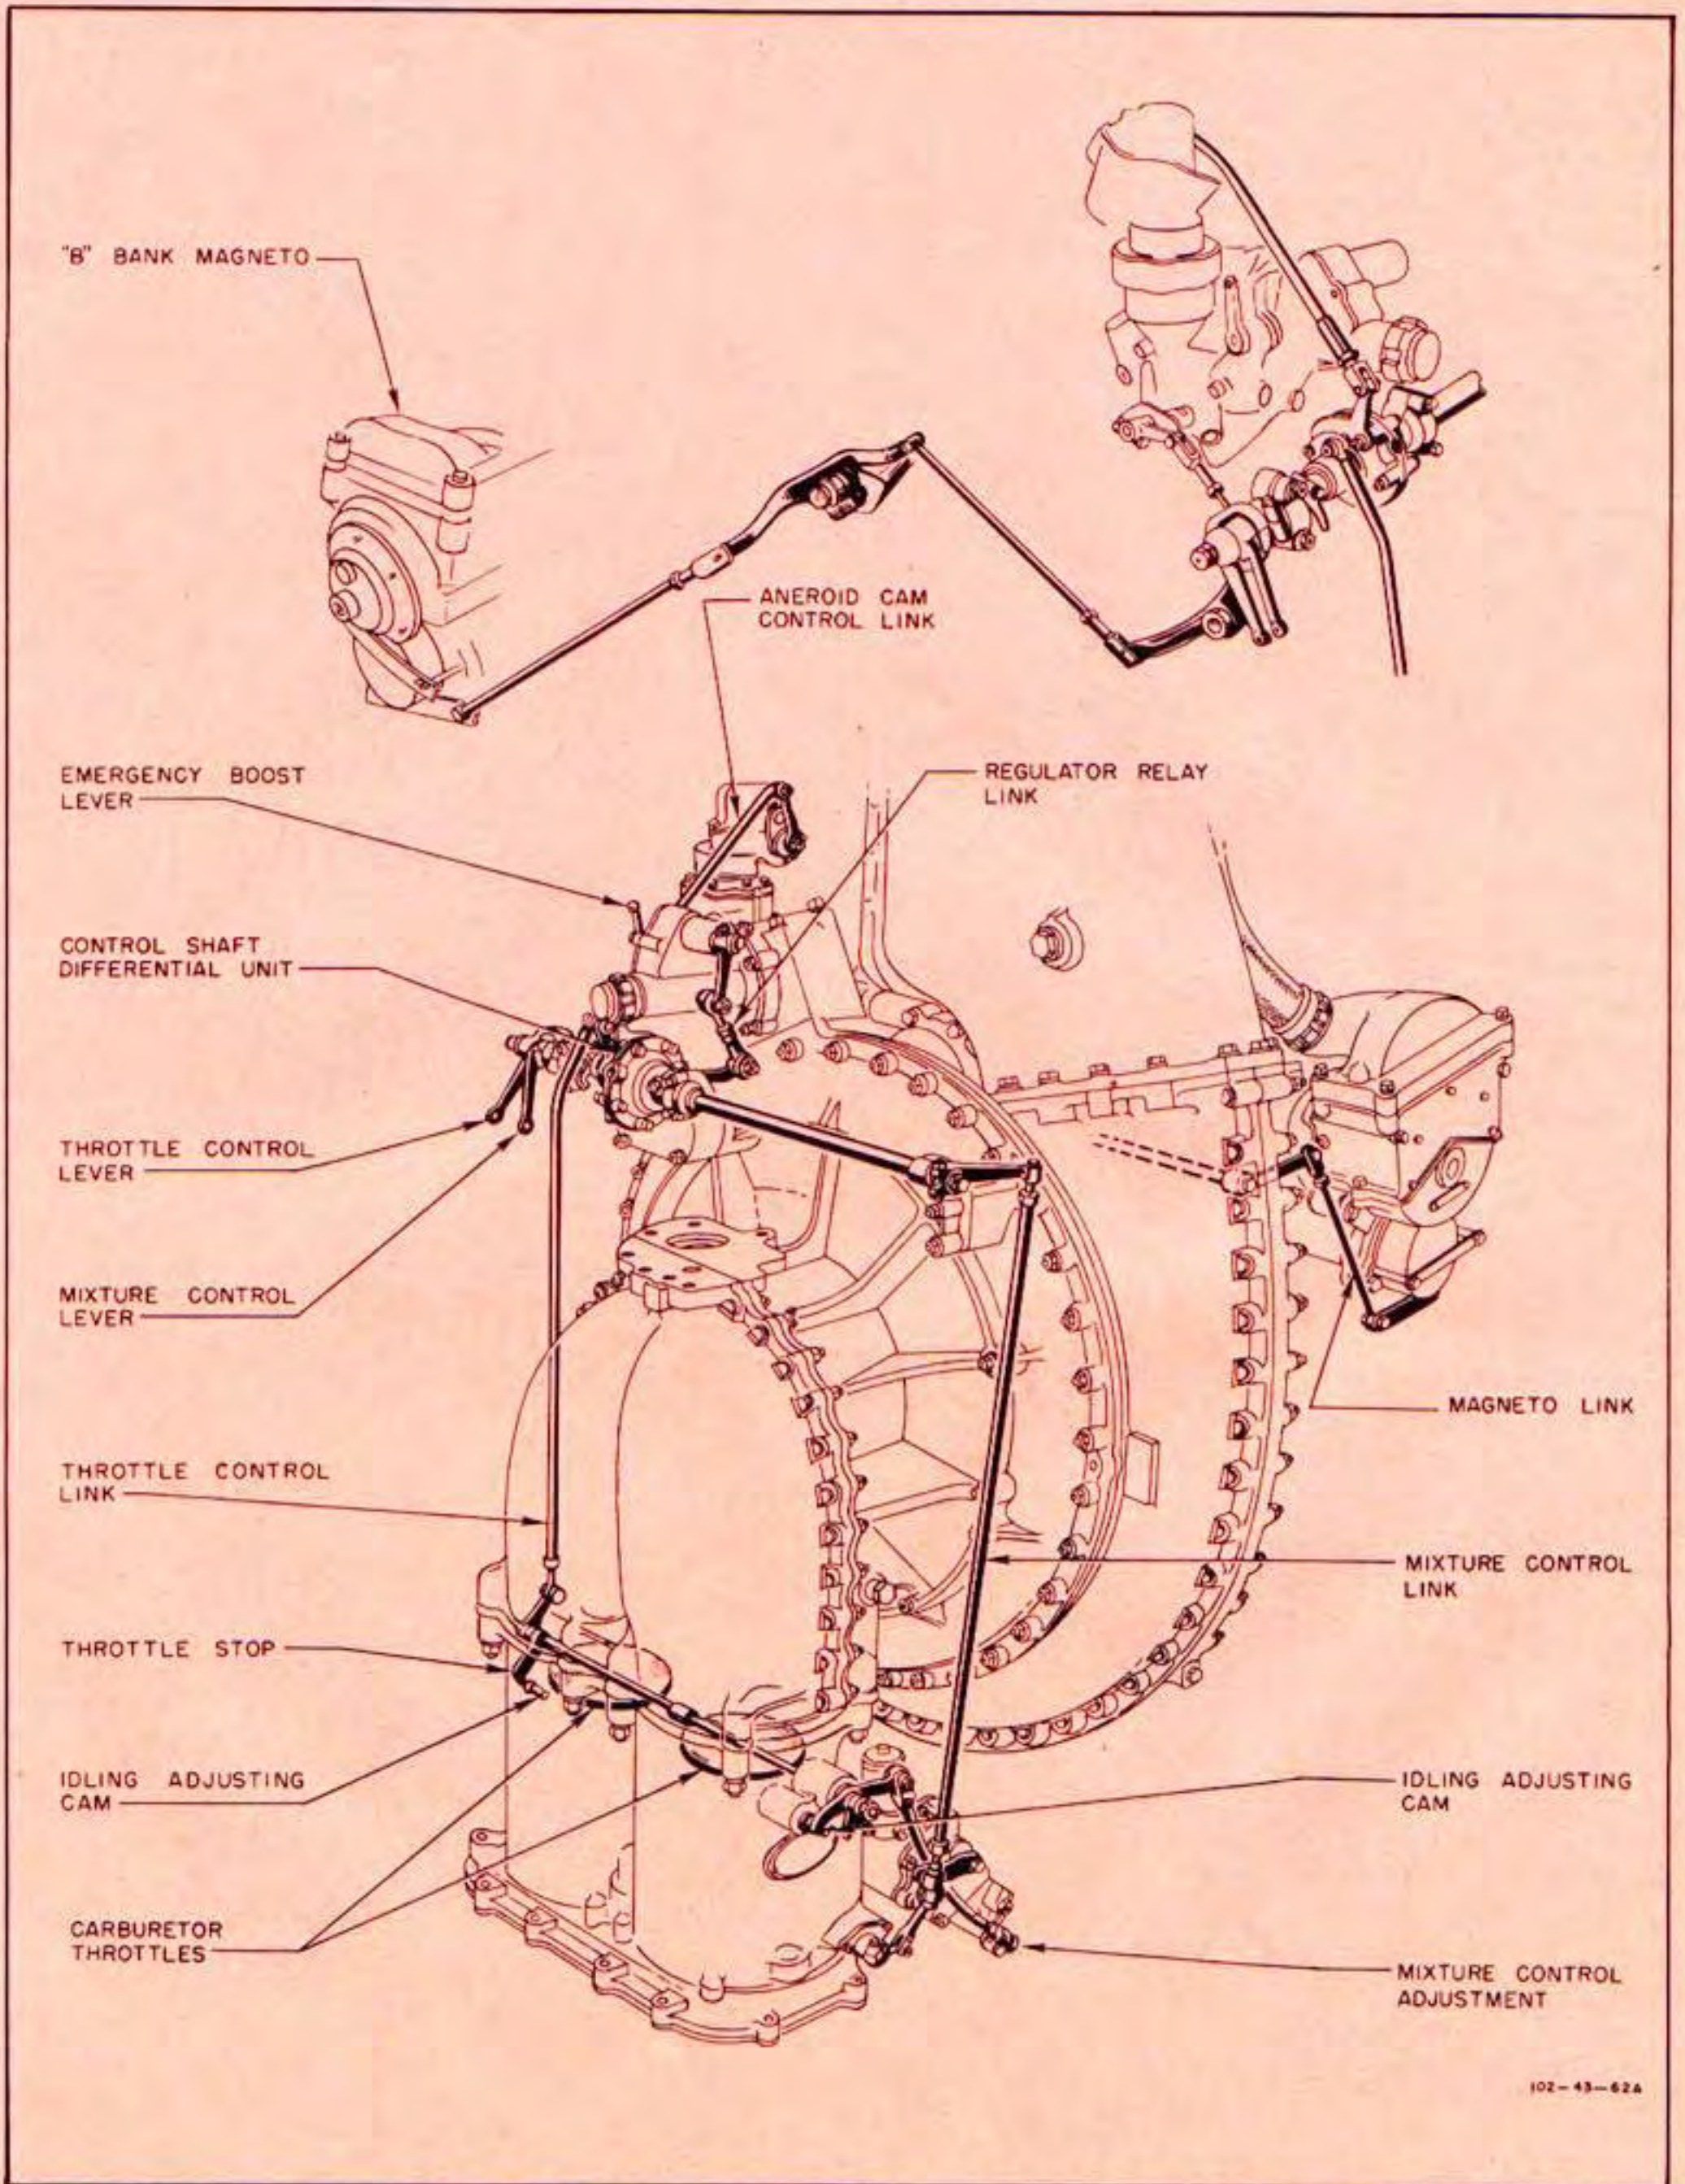

Figure 237—Engine Control Shaft and Linkage
a. GENERAL DESCRIPTION.—The engine is controlled by the cockpit control quadrant levers which are interconnected by rods, flexible cables, and bellcranks to their corresponding units. The control quadrant is equipped with two friction locks, one for the throttle and one for the propeller and mixture controls. On later airplanes, the throttle control lever has been changed to incorporate a twist-grip handle to operate the K-14 gun sight. (*See figure 238.*) A control shaft (*figure 237*), mounted on the rear supercharger casing, serves as an intermediate connection between the cockpit control quadrant and the linkage to the magnetos, carburetor, and manifold pressure (boost) regulator. A differential unit, incorporated in the control shaft, permits the manifold pressure regulator to operate the carburetor throttles independently of the cockpit throttle control for variations corresponding to changes in altitude or engine speeds, and to obtain war emergency rating. Linkage on the control shaft connecting the throttle with the magnetos advances or retards the ignition timing as the throttle is opened or closed. The supercharger clutch control is automatic and operates electrically.
(1) DESCRIPTION.—The pilot's mixture control lever is also connected to a lever on the engine control shaft, which is in turn connected to the carburetor. (See figures 237, 238, and 239.) On early airplanes there are three mixture control positions: "AUTO RICH," "AUTO LEAN," and "IDLE CUT OFF." The "FULL RICH" position is blocked off by stops which prevent the control lever from going to its full forward position.